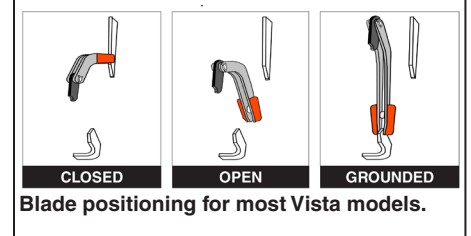

Figure 5. Confirm the blade position of the load-interrupter switch or fault interrupter.
STEP 9. Open the viewing window cover again and confirm the position of the load-interrupter switch or the three-pole fault interrupter by visually observing the position of the blades. See Figure 5 on page 1. Use the manual operating handle to move the switch to the **Grounded** position.